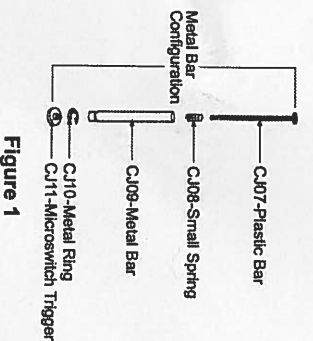

Figure 1
- 1) Metal Bar(CJ09) includes components of Microswitch Trigger(CJ11), Metal Ring(CJ10), Plastic Bar(CJ07) and Small Spring(CJ08). *Show as Figure 1*